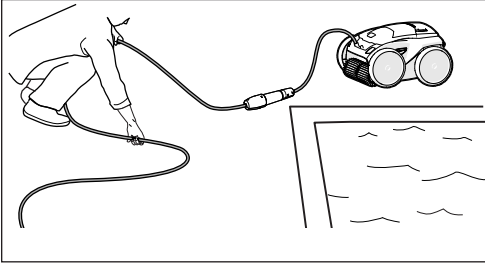

Figure 10. Untangle the Floating Cable
4. Remove the cleaner from the pool and untangle all kinks and coils in the power cable. Start at the cleaner head. Lay the cable in the sun to loosen any tangling memory. See *Figure 10*.